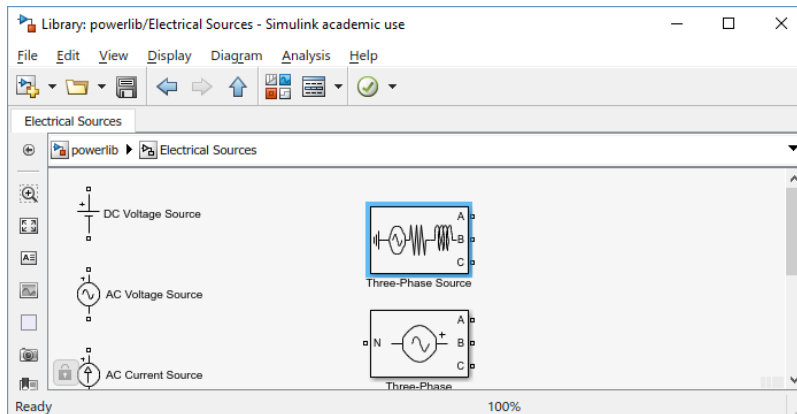

Figure 6
- Slack-bus, PV-bus and PQ-bus (PQ-load) can all be modelled using the **Three-phase Source** (Figure 6) found among **Electrical Sources**.